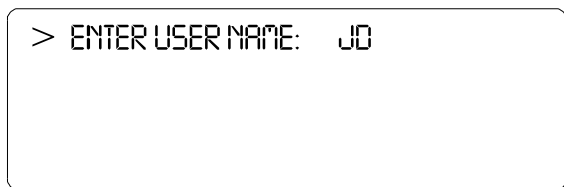

FIG. 335: LOGGING ON/ENTERING USER NAME
- Step 1. From the Standby display press on the User/. button. The Enter User Name Display appears. (See Fig. 335)